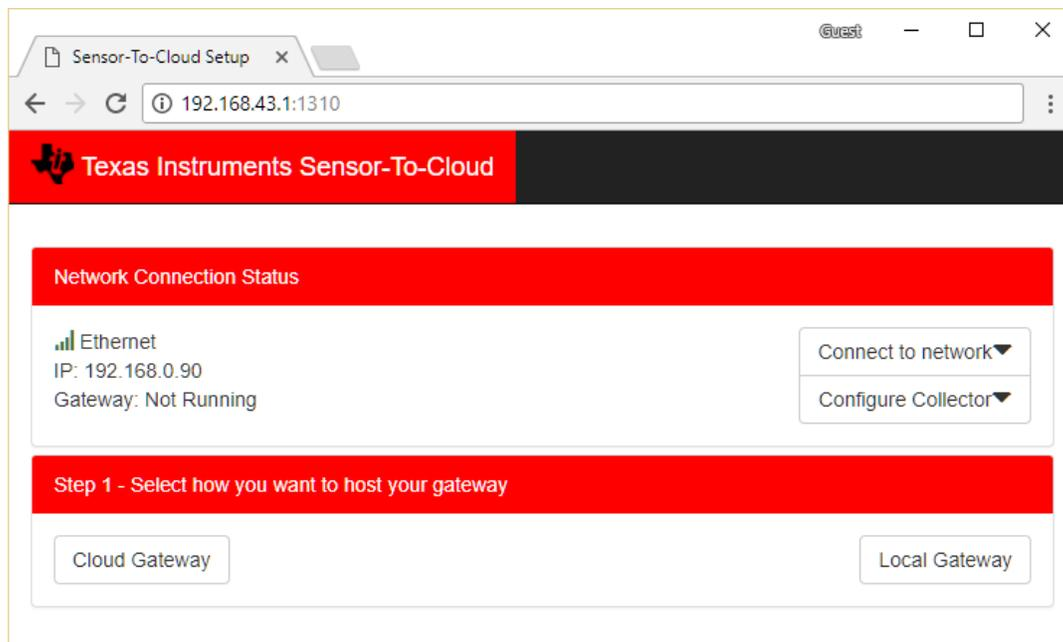

Figure 6. BBB Ethernet Connection
- b. For ethernet connections, attach an ethernet cable to the ethernet port on the BBB. You should see **Ethernet** in the *Network Connection Status* as seen in Figure 6. Next, skip to Step 4.